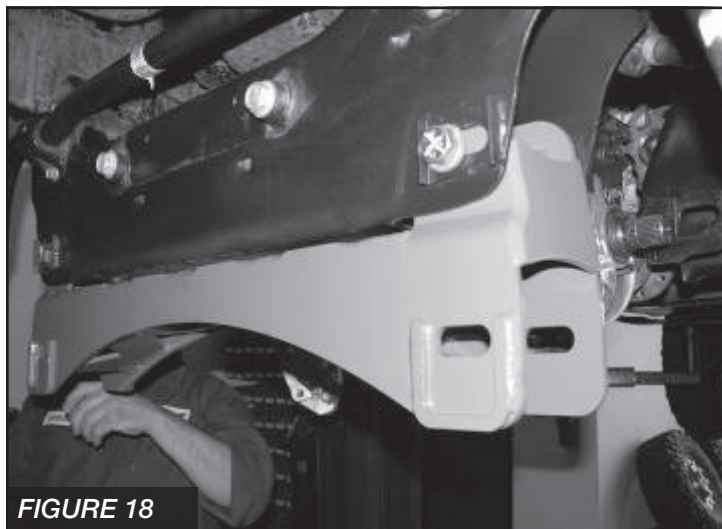

FIGURE 18
28. Locate FT44358BK front crossmember and install it into the front lower control arm pockets using the supplied $\frac{5}{8}$ " x $5\frac{1}{2}$ " bolts, nuts, and washers. Leave loose at this time. **SEE FIGURE 18**